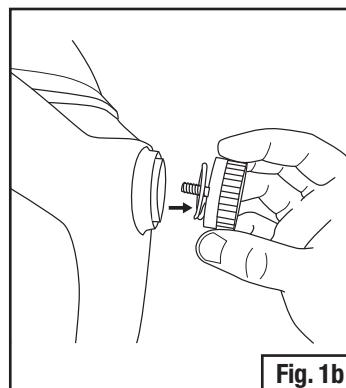

Fig. 1b
- Unscrew the spring loaded knob from each side of the headgear, and remove the M-153SG Welding Shield from the front of the M-Series headgear (Fig. 1b). (Not required for new installations on existing helmets.)